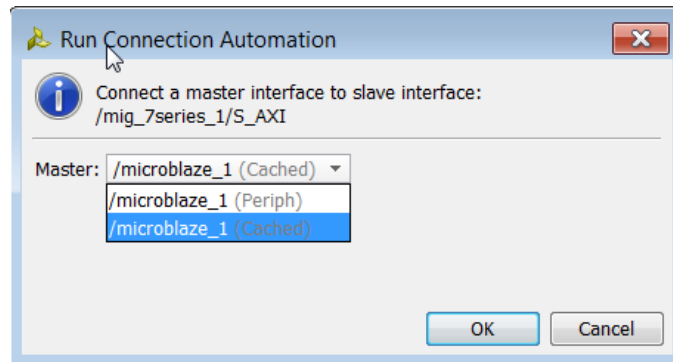

Figure 119: /microblaze_1 (cached)
11. From the pulldown menu, select the **/microblaze_1(Cached)** option, and click **OK** (Figure 119).